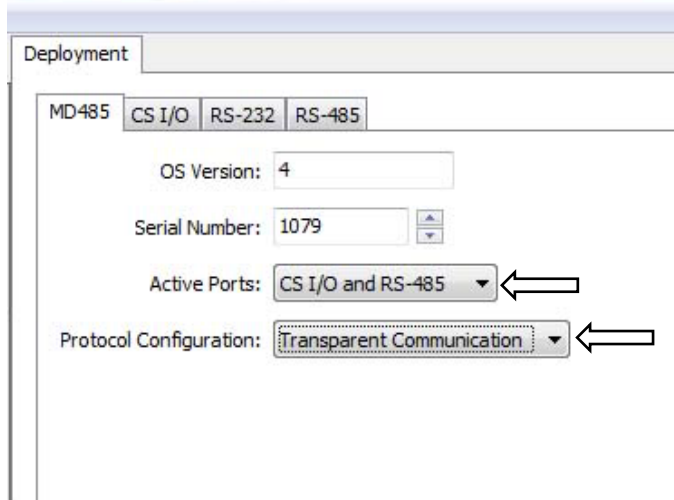

FIGURE 8-13. MD485 Deployment tab
4. Click the **MD485** tab. Select *CS I/O* and *RS-485* in the **Active Ports** box. Select *Transparent Communication* in the **Protocol** box (FIGURE 8-13).